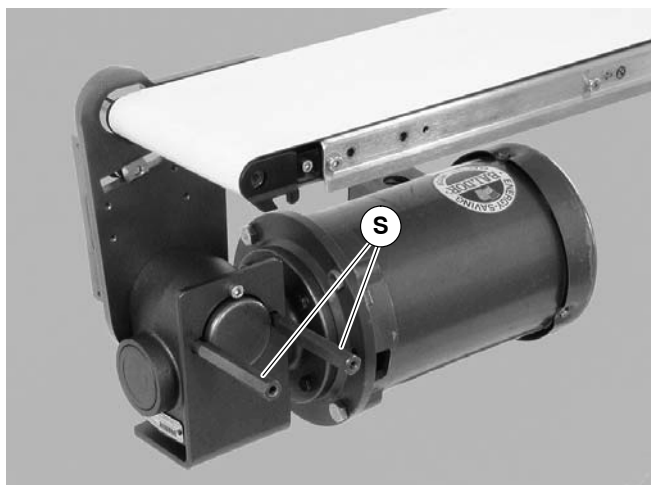

Figure 14
8. Install hex support posts (S of Figure 14). Tighten posts to 80 in-lb (9 Nm).